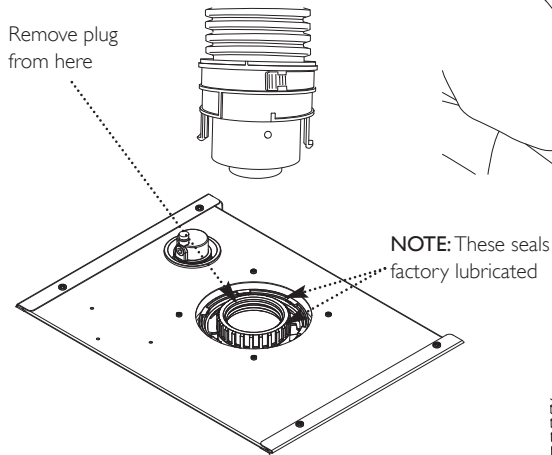
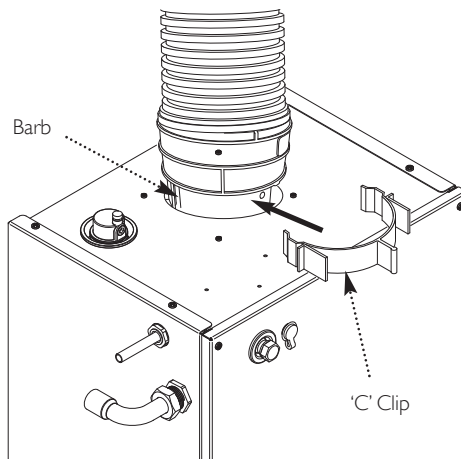

Fig. 29
Fig. 30
12. Remove the plastic plug from the boiler flue outlet. Grasp the adaptor and locate it into the boiler, ensuring the two large barbs lock into position under the boiler top panel (Fig. 29). Fit the 'C' clip to the adaptor to secure the flue. **It must fit into the barbs and clip securely into place** (Fig. 30).